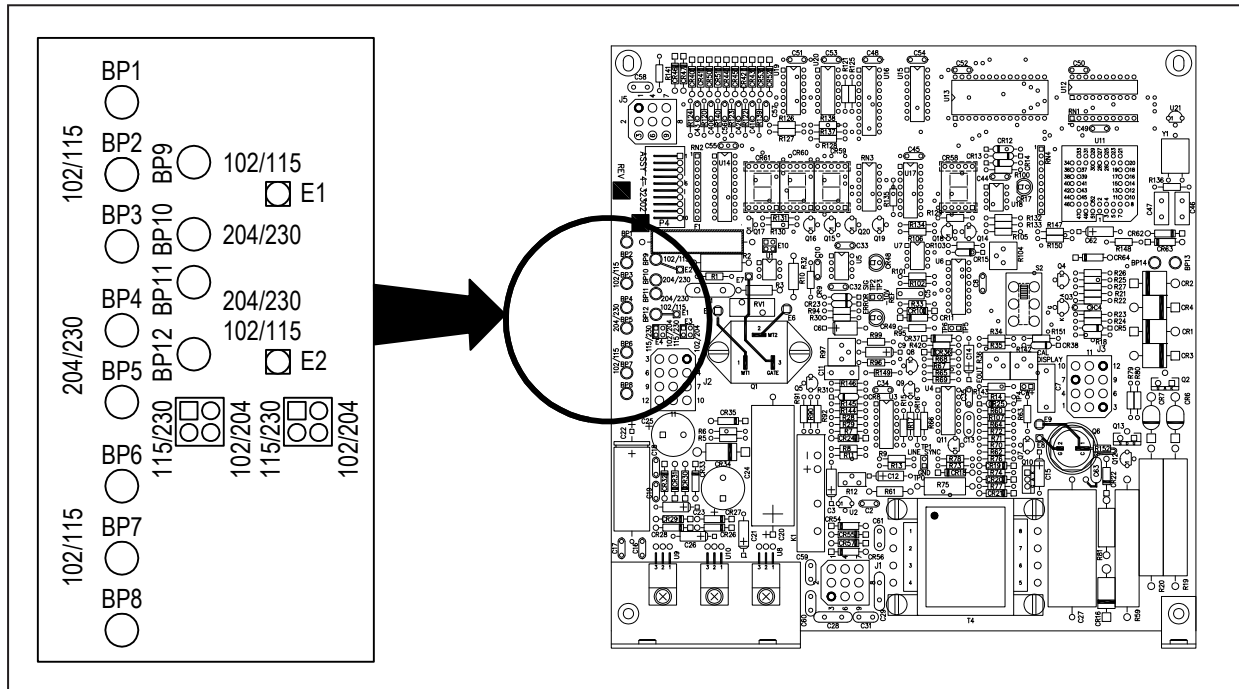

Figure 5-1. Line Voltage pins on Control Board
Perform pull tests and plot the results of %ENERGY versus Pull Strength (see figure 5-1). Repeat this procedure for different forces and plot a separate curve for each electrode force.
- a) Change jumper connections on Control Board. Refer to figure 5-1.